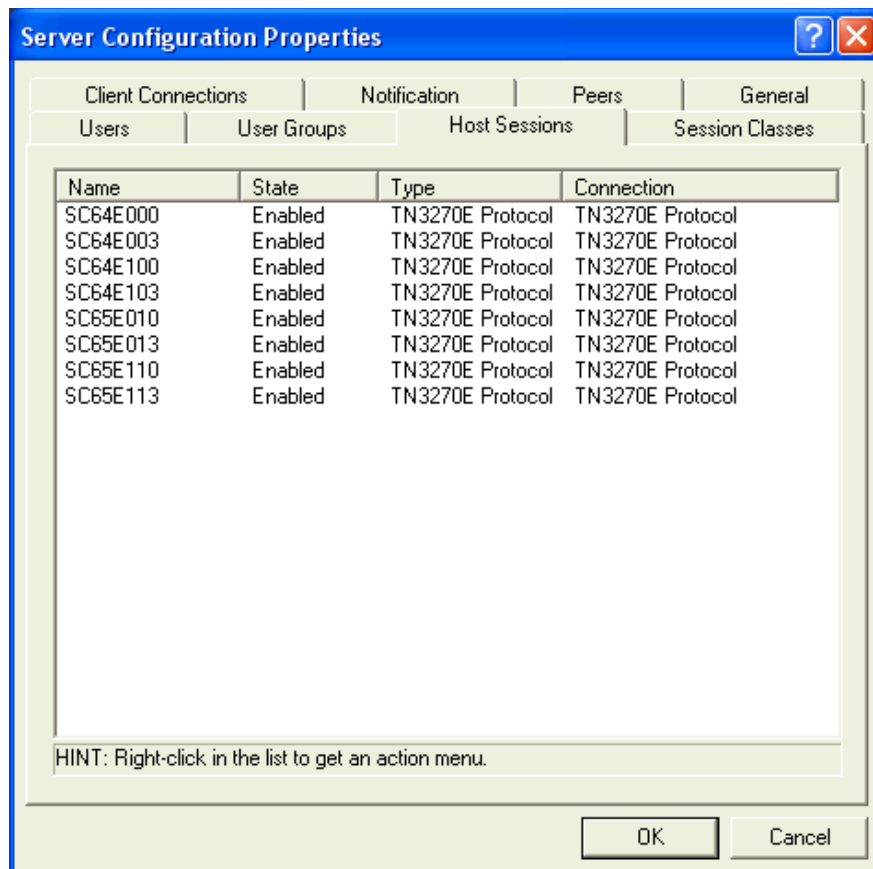

Figure F-13 Server Configuration Host sessions page - part 2
12. The Server Configuration Properties panel Host Sessions tab is displayed. Repeat the session definition steps 6 through 11 for all required sessions on this workstation (see Figure F-13) and click **OK**.